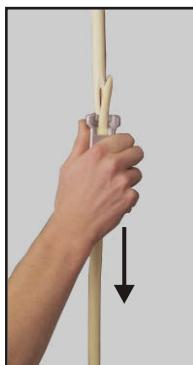

Fig.4
4. The low profile design also allows for tool operation on a face mounted cable. (Fig.4)